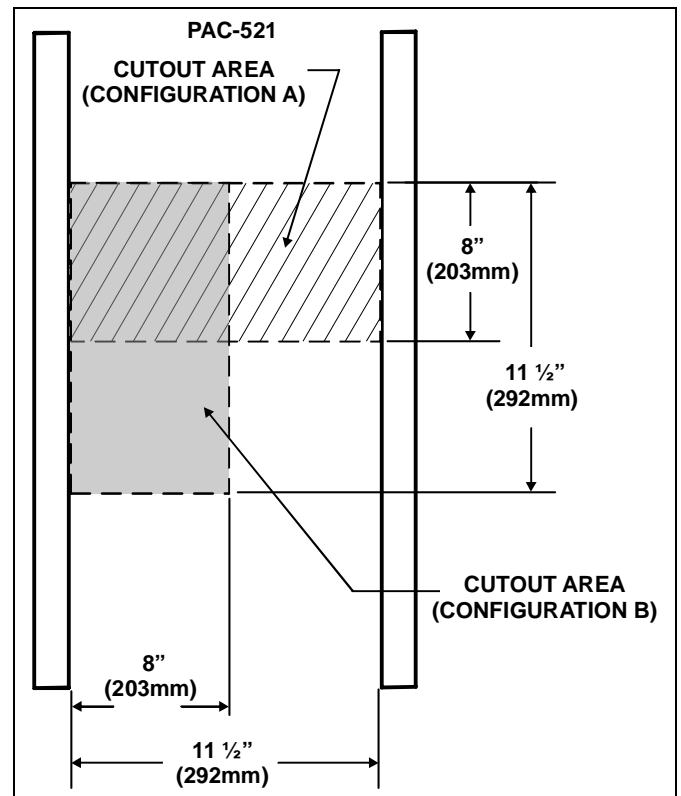

Figure 1
5. Measure the marked area and compare to the dimensions in Figure 1.
- If measurements do NOT match, adjust markings to match dimensions. (See Figure 1)